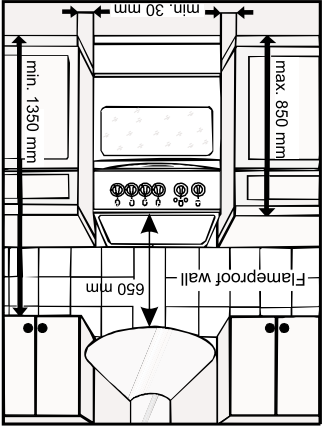

Fig. 4
- When placing the cooker in series with kitchen furniture the distance between the cooker lateral walls and the cupboards cannot be less than 30mm (fig. 4)